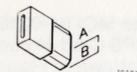

Figure 2-16 IDS Jumper
- b. If your CPS Card has an IDS jumper, connect the jumper as shown in Figure 2-16.